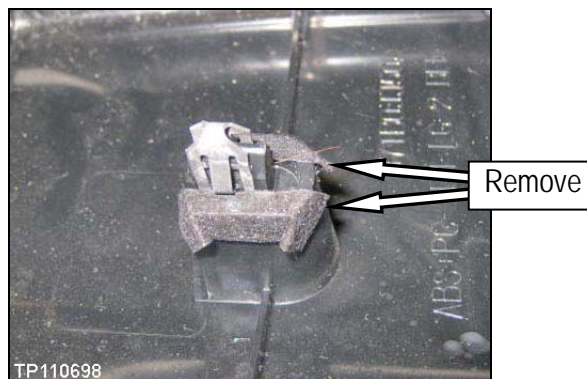

Figure 13f
13. Remove any felt cloth found at the sides of the clips (see Figure 13f).